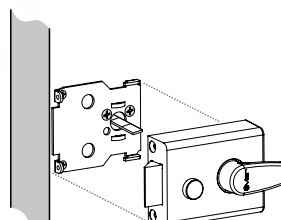

Fig. 5
6. Using the button located on the front of the case, turn the handle to withdraw the latch bolt and lock in open position using the button. Begin to align the lock body to the mounting plate ensuring that the flat connecting bar aligns and locates into the slot on the rear of the lock case (Fig.5).